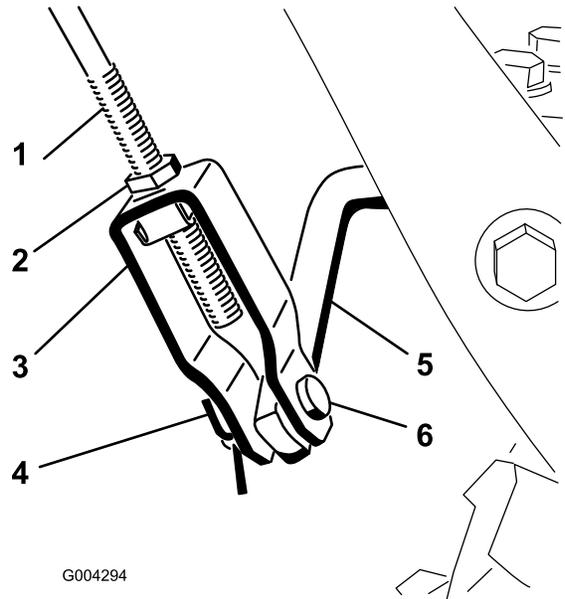

Figure 8
1. Loosen the jam nut above the clevis on the upper control rod (Figure 8).
2. Align the holes in the clevis and the lower control rod and insert the clevis pin (Figure 8).
- Thread the clevis up or down to increase or decrease the distance between the top of the handgrip and the bottom of the auger/impeller drive control lever (Figure 8).
- When the adjustment is correct, install the clevis pin and secure it in place with the cotter pin (Figure 8).
- Tighten the jam nut to secure the clevis (Figure 8).